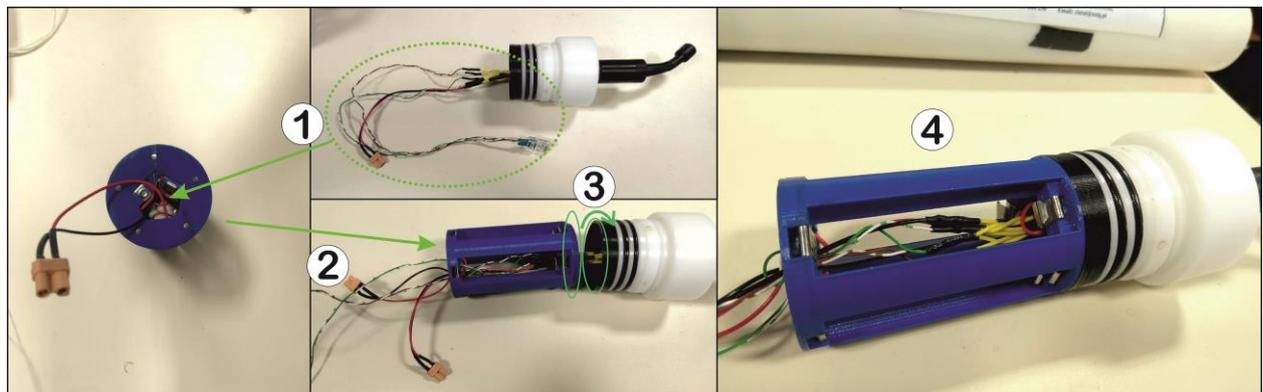

Figure 10 - Mounting of battery pack in End Cap
DAVS Battery pack is a blue cylinder which use five Li-Ion 18650 batteries and can be screwed to DAVS end cap. If the battery pack was disassembled from end cap (Figure 10), it's necessary to pass the energy
and communication cables through the centre of the battery pack (1) before inserting the batteries. With some care, pass the cables as shown in Figure 10 (2) paying attention to the pack threaded end that should be in the end cap side. Then screw the battery pack to the black part of end cap and just slightly tighten it (3). It's ready to insert the 18650 batteries (4).